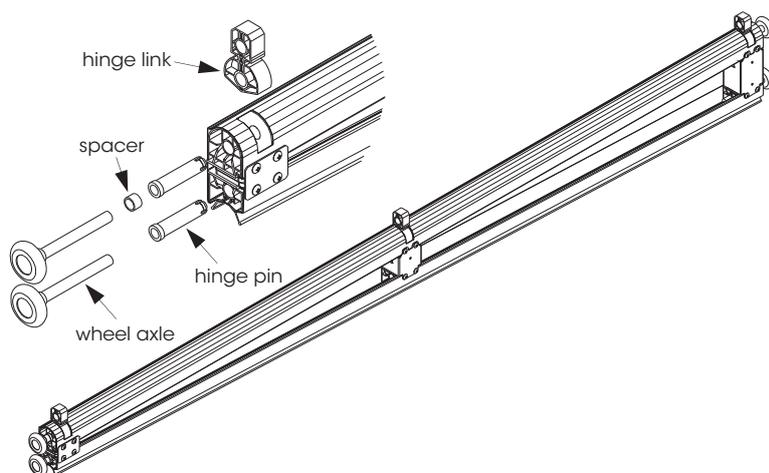

Fig: 5.1.1
- Assemble the tapered panel as shown in Fig 5.1.1 with the 2 spacers required being cut to 10-12mm long from a white link pin and fitted one to each side.